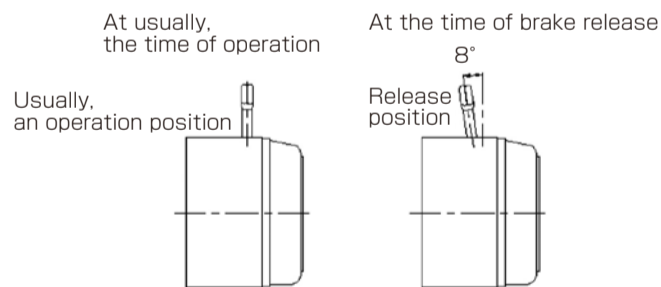

Fig. 1. SB brake and the operation of its manual release lever
- If the brake system is equipped with a manual release lever as illustrated in Figure 1, it is an unexcited actuation type electromagnetic brake. This brake is activated when the motor stops and power supply is shut down. When it is definitely necessary to release the brake for inspection or fine adjustment of the motor, make sure of the safety before manually releasing the brake by setting the manual release lever at the release position. After finishing the work, always reset the lever at the normal position to secure the safety.